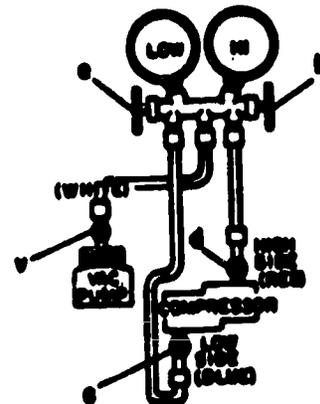

Fig 3-12.
**LOW SIDE (refer to fig 3-12).**